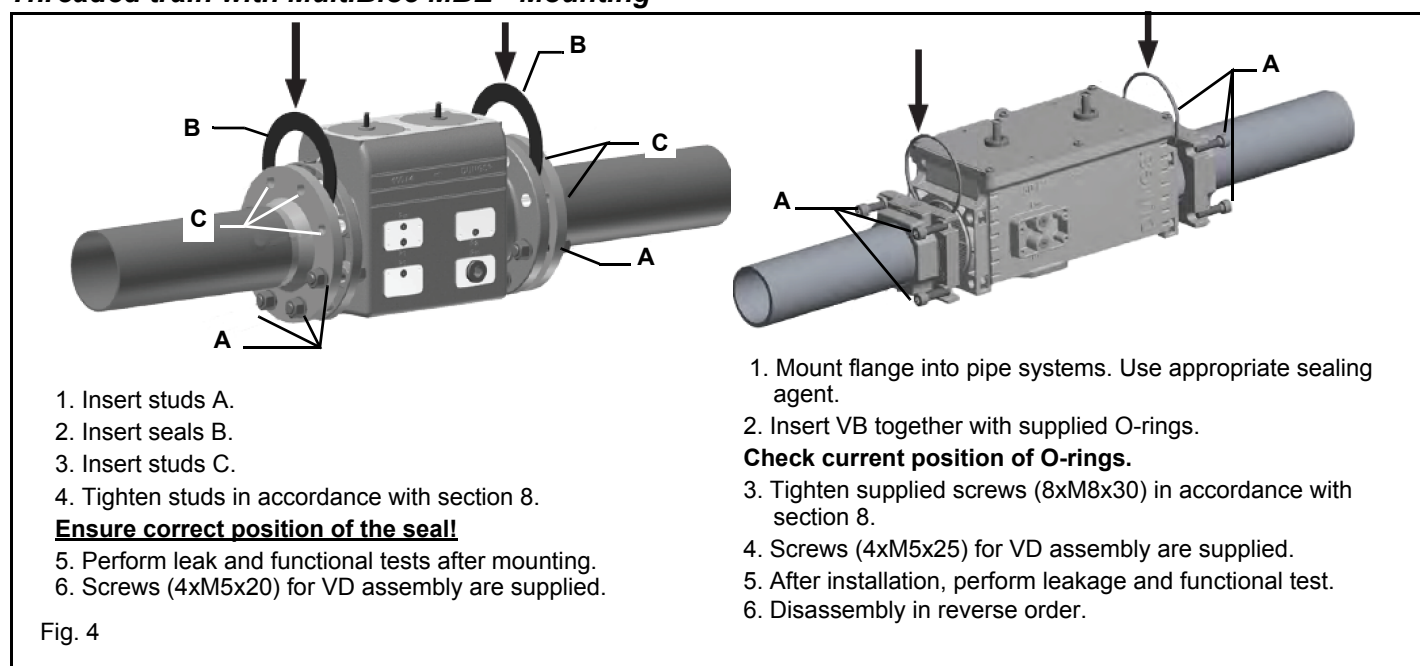

Fig. 4
- 1-b) in case of flanged joints: place a gasket (no. 1A..1E - Fig. 4) between the elements;
**ATTENTION:** once the gas train is mounted according to the diagram on Fig. 4, the gas proving test must be performed, according to the procedure set by the laws in force.